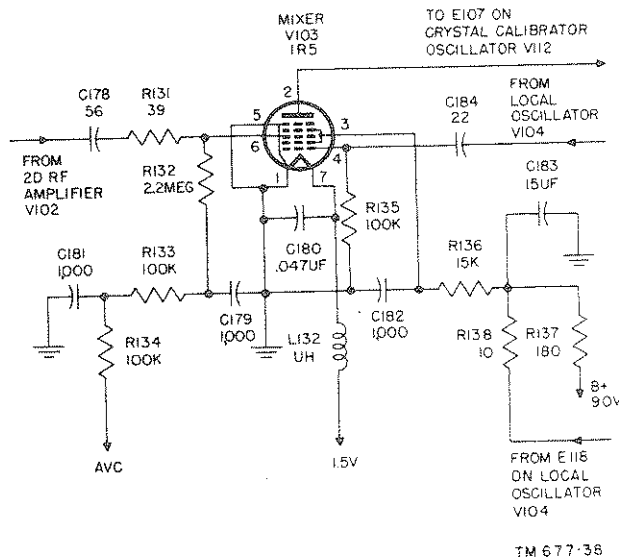

Figure 38. Radio Receiver R-395/PRD-1, functional diagram of mixer.
c. The output of V104 is coupled to the first control grid (pin 4) of the mixer (V103) through capacitor C184 (fig. 38). On bands 1, 3, 4, 5, 6, and 7, the frequency output of the local oscillator is 455 kc higher than that of the rf signal. On band 2, the frequency output of the local oscillator is 1,610 kc higher than that of the rf signal.
75. Mixer (fig. 38)
d. The rf signal from second rf amplifier V102 is fed through coupling capacitor C178 and parasitic suppressor grid resistor R131 to the signal grid (pin 6) of V103. The output of local oscillator V104 is fed through injection capacitor C184 to the first control grid (pin 4) of V103. The plate circuit of V103 is a tuned inductance-capacitance (LC) circuit. On bands 1, 3, 4, 5, 6, and 7, the plate circuit is tuned to 455 kc which is the difference in frequency between the signal received from second rf amplifier V102 and the